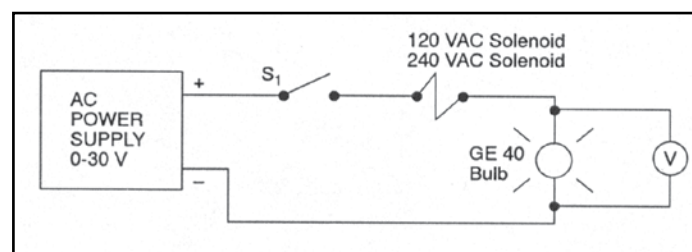

Fig. 3-7. Inductance in a AC circuit. Courtesy of Delmar Learning.
12. Construct the circuit in *Figure 3-7* using the 120-VAC coil and the variable AC 60-Hz power supply.